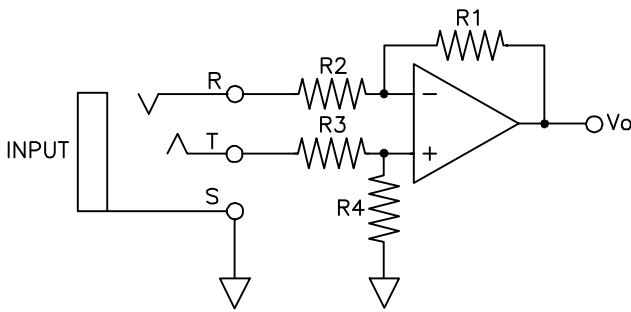
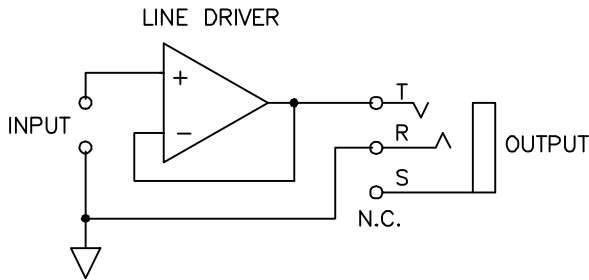
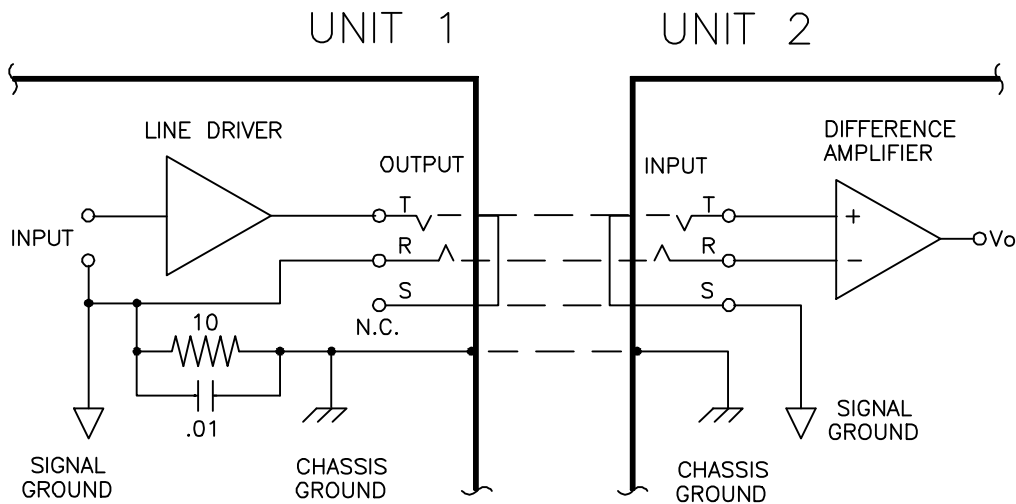

Figure 1. TRANSFORMERLESS BALANCED INPUT STAGE
Figure 3. FLOATING UNBALANCED 1/4" TRS OUTPUT
Figure 4. INTERCONNECTION
Figure 1 shows a balanced stage with a TRS 1/4" phone jack input. There is a bit of cleverness going on here that comes for free. Using a stereo phone plug into the stereo jack gives you the balanced line input. Not so obvious is that by using a mono phone plug the circuit automatically switches to unbalanced single line operation. Nice, huh? What happens is that the ring of the jack gets shorted to ground by the mono plug and turns the difference amp into a non-inverting stage with a gain of two (assuming all resistors equal), but there is a 6dB pad (a loss of 1/2) hung on its positive input, so the net result is a unity gain unbalanced input. The stage becomes universal now, being either balanced or unbalanced, depending on whether the input plug is stereo or mono.
The best solution, as is so often true, is the simplest. It is no more complex than Figure 3. By taking a regular single-ended (unbalanced) line driver and floating its ground you create a compatible system for driving differential (balanced) inputs that is trouble free. Figure 4 shows the interface between the two systems. Note that while the chassis of each unit may be at the same potential, their signal grounds are allowed to be at different potentials. This is very important in keeping hum common mode, and not differential. Any difference of potential existing between the two grounds is seen as a common mode signal and is rejected. This problem is particularly acute where units of various manufacturers
Like the balanced input stage of Figure 1, the floating output stage of Figure 3 automatically switches to a conventional unbalanced output stage if a mono phone jack is used for interconnection. The ring of the jack gets shorted to the sleeve, thus grounding the sleeve as you would in a normal unbalanced system.
Figure 1 shows a standard difference amplifier. On the surface it looks simple enough, but close examination of the available literature and text books covering difference amplifiers reveals a subtle complexity that causes great confusion. It all revolves around the fact that the negative input impedance is *dynamic* while the positive input impedance is *static*. That is, the positive impedance is unrelated to the type of input signal or feedback resistor. It is always equal to equation (1), whether the input signal is differential or common mode.